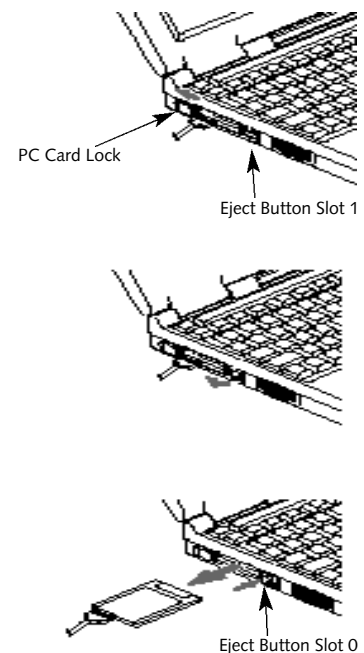

Figure 4-9 Installing and Removing a PC Card
3. Insert the PC Card in the card slot, with the product name label facing up. (Figure 4-9.)
6. When the card is installed, lock it in place by sliding the Lock button toward the front of your notebook. (Figure 4-9.)